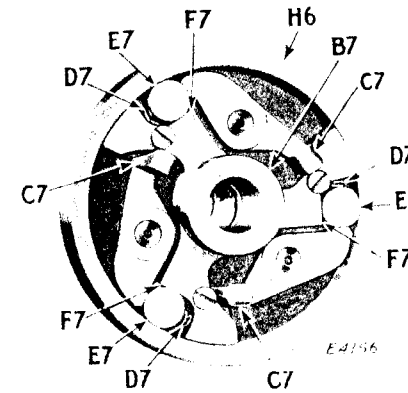

Fig. 22. Rapid Feed Clutch Disc Showing Clutch Rollers, Springs, Levers and Carrier Assembled
**To Remove the Clutch Rollers.** It is important that the clutch rollers (E7, Fig. 22) be absolutely true and of equal diameter so that they will all grip against the rim of the rapid feed driving disc. The clutch rollers may become so worn as to interfere with the perfect operation of the clutch, allowing the clutch to slip. When this occurs, the worn clutch rollers should be removed and new rollers inserted in their place as follows:
Using the tweezers furnished with the machine, carefully draw out the clutch roller (E7, Fig. 22), at the same time inserting a thin piece of sheet metal between the roller and the plunger (D7, Fig. 22) to keep the spring and plunger from dropping out of the retainer. In case the spring and plunger should drop out of the retainer, dip them in heavy grease which will help to hold them when they are replaced.
In case the springs (D7, Fig. 22) should become weakened or broken, they can be removed and new springs inserted in their place after removing the clutch rollers as previously instructed.